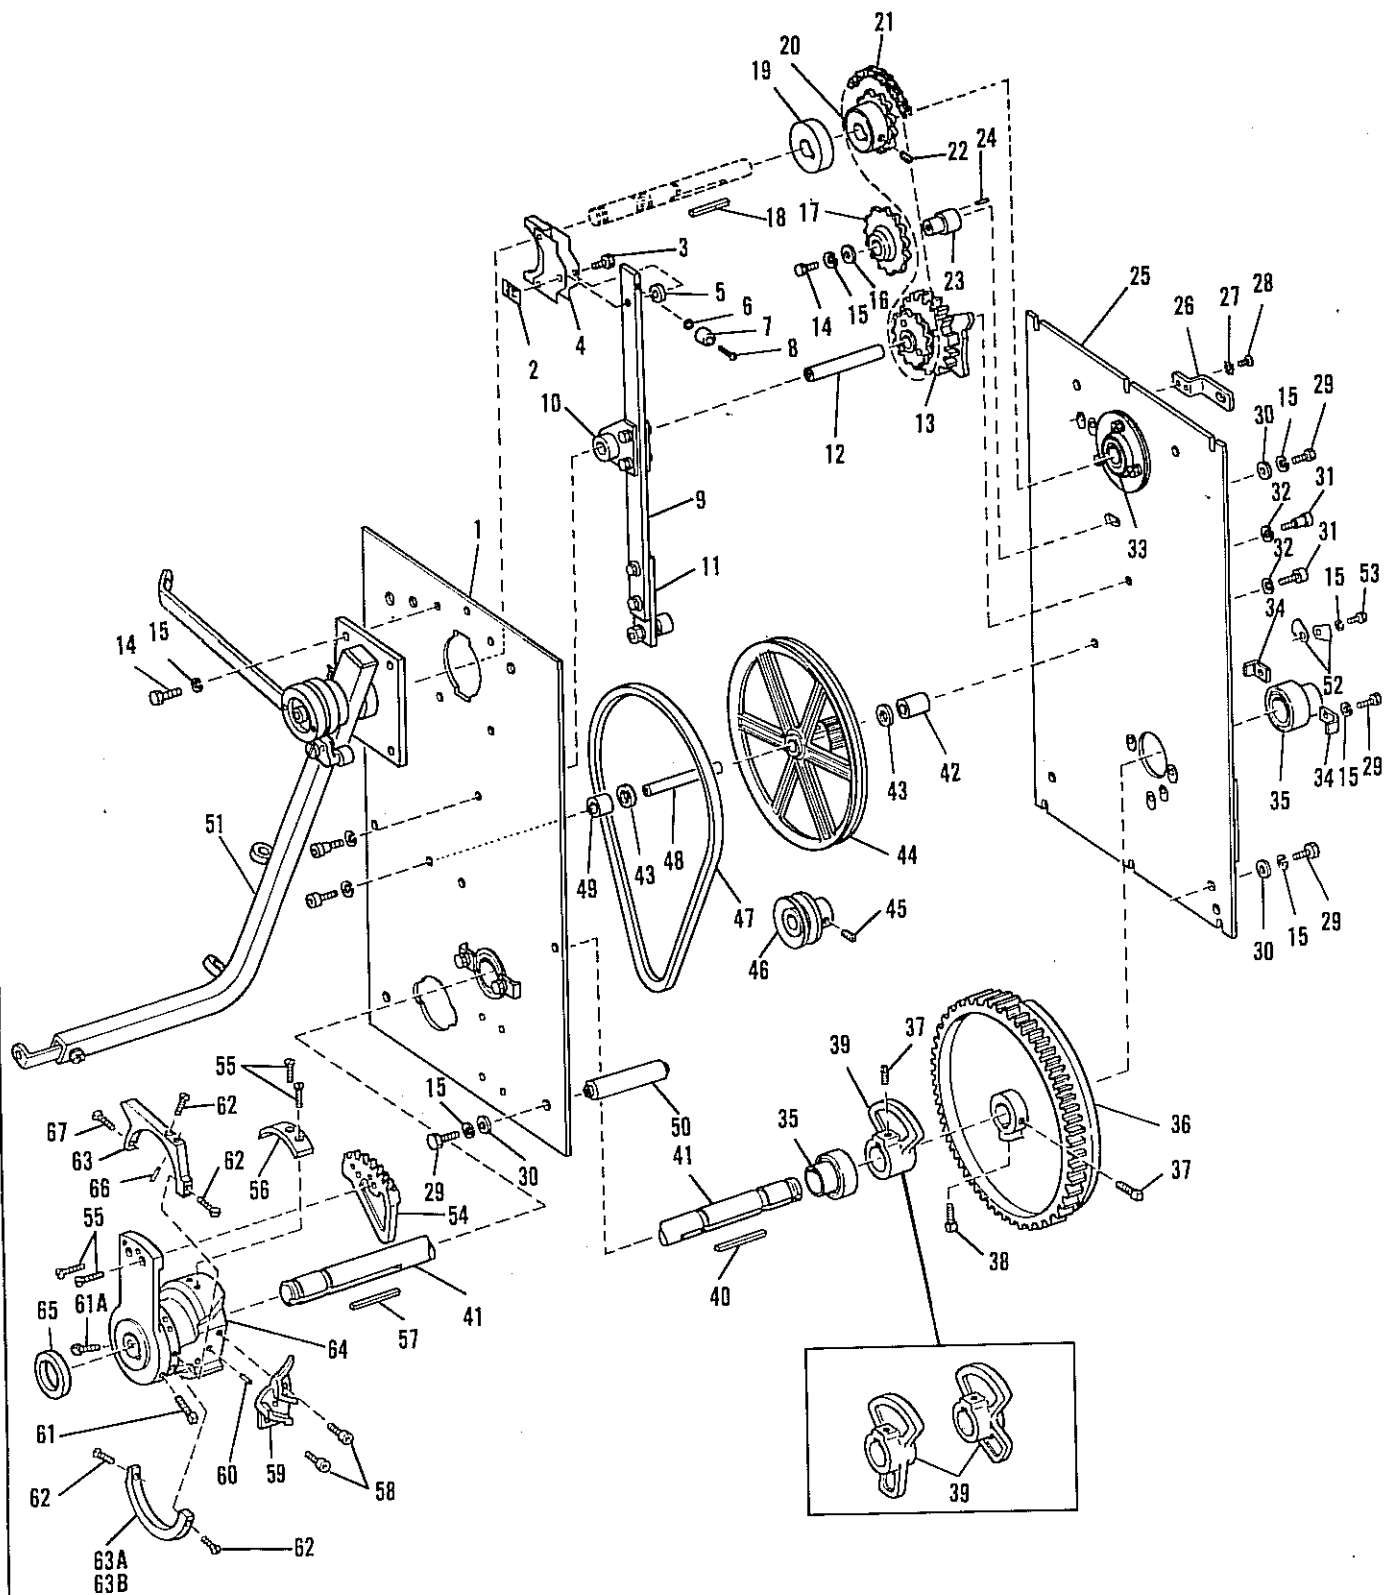

Figure 46. Drive Assembly
7. Carefully lower new electric motor assembly (69) into position on motor mounting bracket assembly (42), taking care to work V-belt (47, figure 46) into electric motor sheave (46), and secure to
4. Carefully raise electric motor assembly and work V-belt (47, figure 46) off of electric motor sheave (46).
5. Remove screws (31) and washers (32) securing pulley shaft (48) to front plate assembly (1) and rear plate assembly (25), and carefully pull pulley assembly (44) and V-belt out from between front plate and rear plate assemblies.
6. Position new V-belt (47) on pulley assembly (44) and guide pulley assembly through front and rear plate assemblies.
7. Carefully align pulley assembly (44) and secure pulley shaft (48) to front plate assembly (1) and rear plate assembly (25) with washers (32) and screws (31).
8. Raise electric motor assembly (69, figure 45) and carefully work new V-belt (47, figure 46) onto electric motor sheave (46).